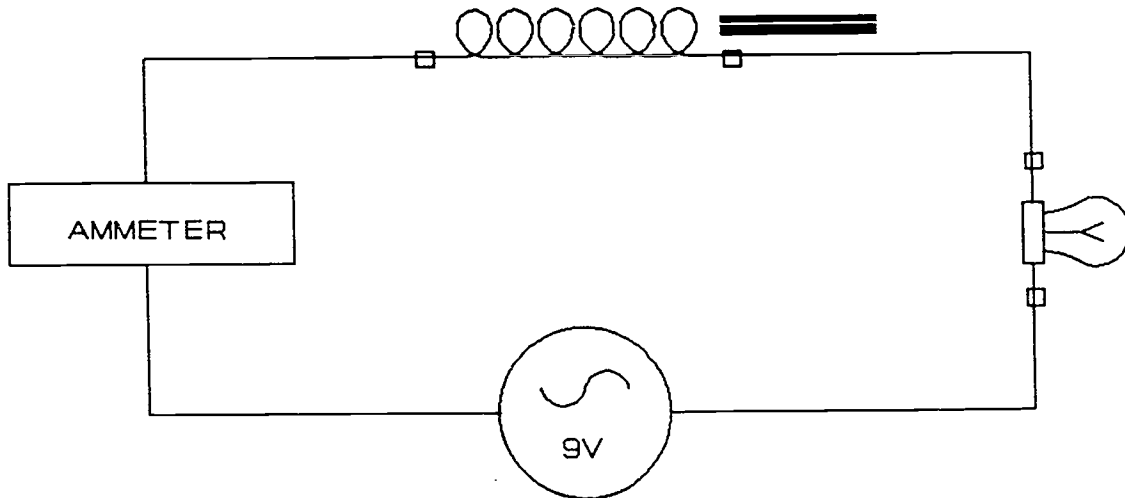

Figure M-8-2
1. Connect circuit as shown in Figure M-8-2, "Coil with Core Diagram."